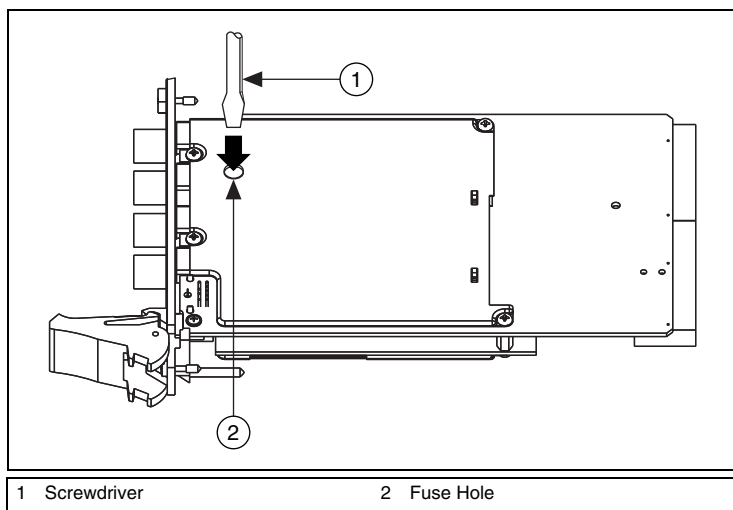

Figure 18. Removing the Fuse from the NI PXI-4070 and NI PXI-4072
3. Locate the fuse hole shown in Figure 18.